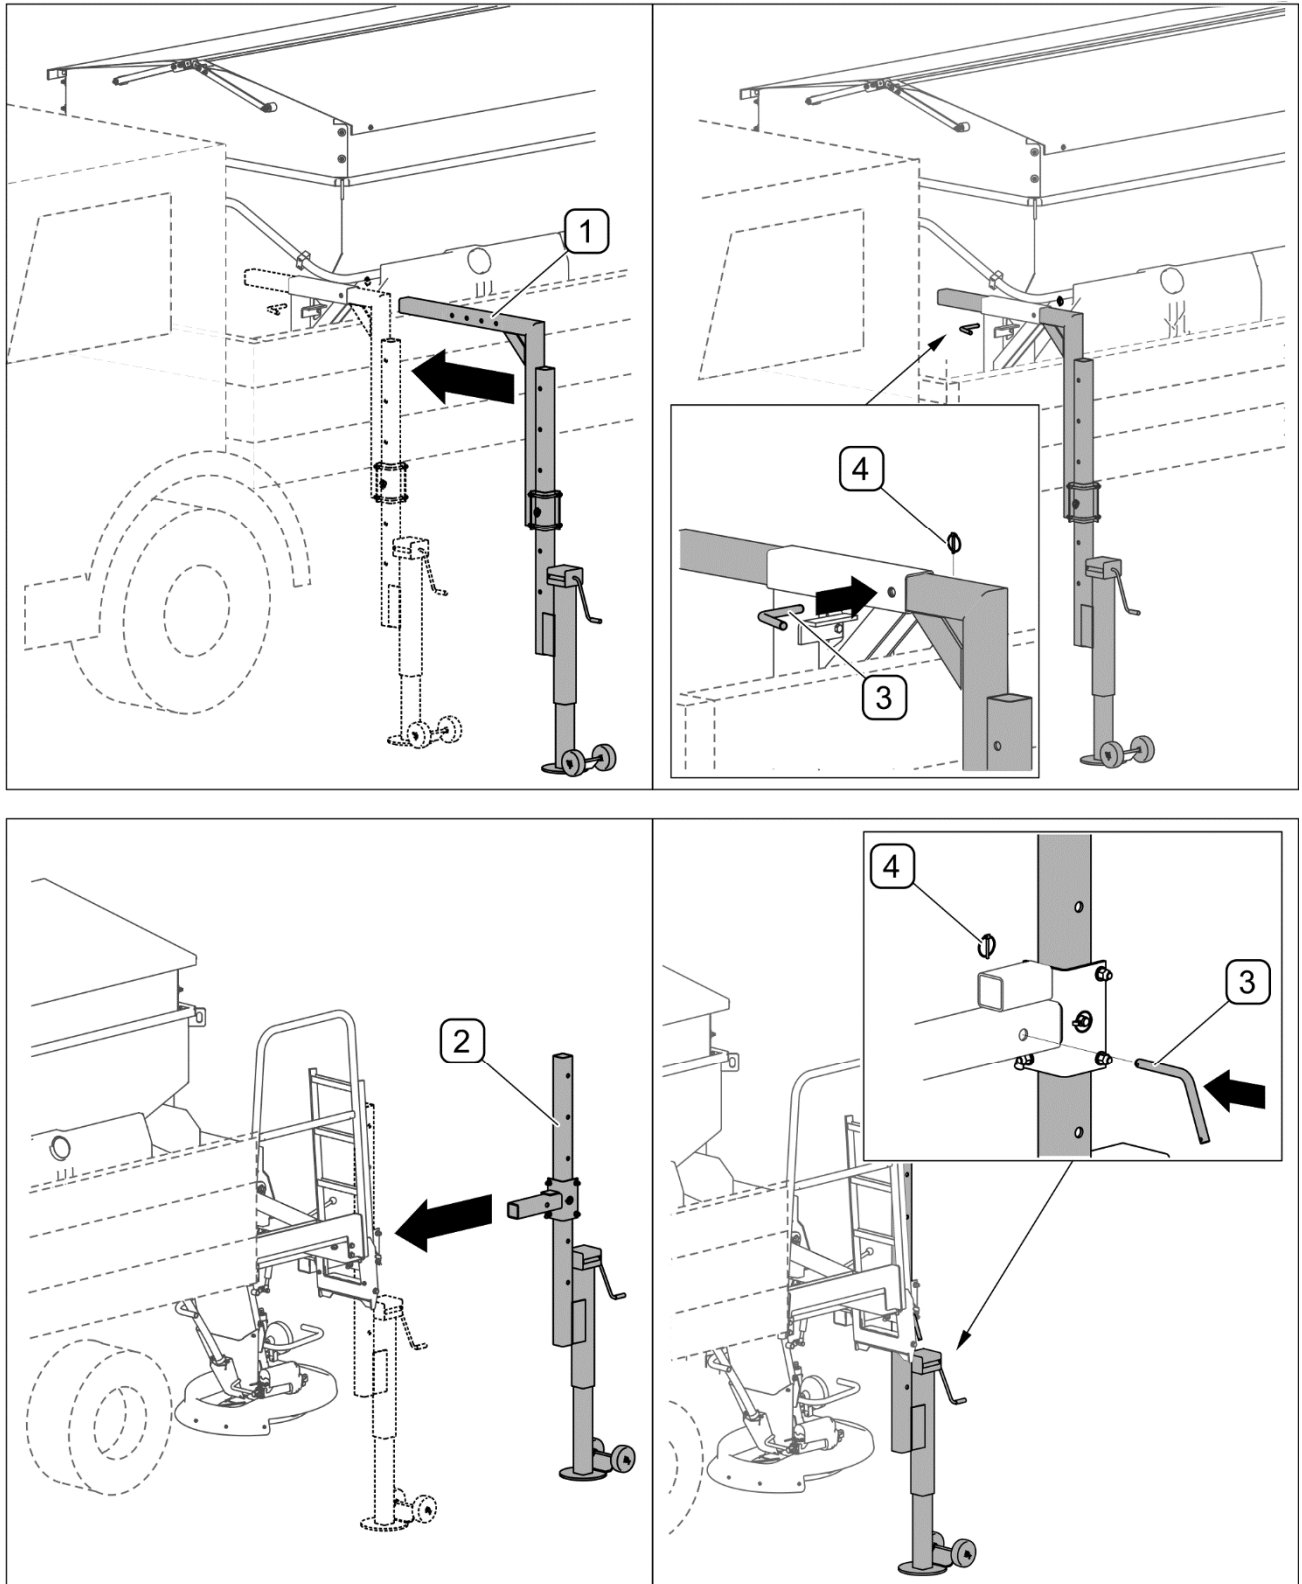

FIGURE 4.35 Installing the parking stands
- Install front (1) and rear (2) parking stands (FIGURE 4.35) and lock them using linchpins (3) and cotter pins (4).